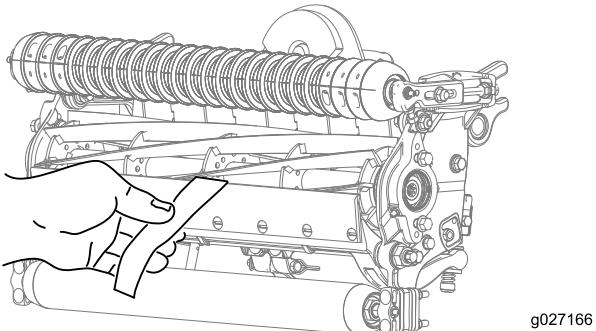

Figure 10
- Test the cutting performance by inserting a long strip of Toro cutting performance paper between reel and bedknife, perpendicular to the bedknife (Figure 10). **Slowly** rotate the reel forward; it should cut the paper.